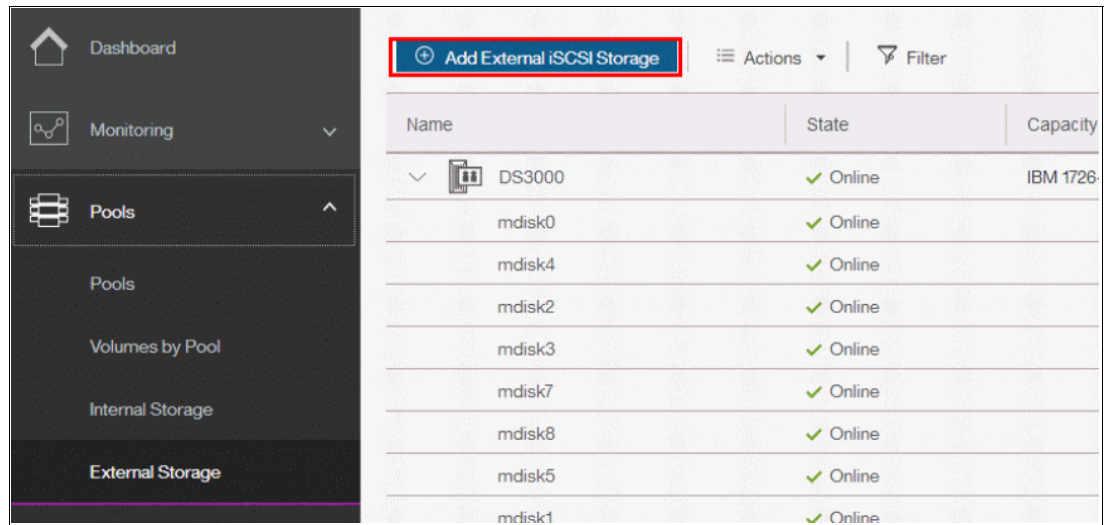

Figure 5-67 Adding external iSCSI storage
4. When all prerequisites are fulfilled, you are ready to add the iSCSI controller. To do so, navigate to **Pools** → **External Storage** and click **Add External iSCSI Storage**, as shown in Figure 5-67.